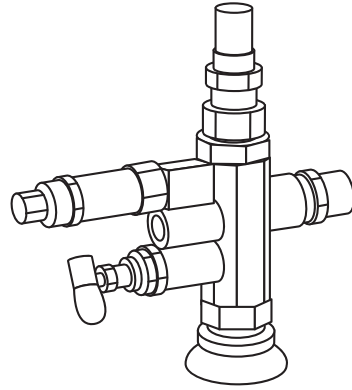

Figure 7 - Manual Lever Loaded Position
9. After approximately 30 minutes, move the unloader lever down to the loaded position and turn the regulator knob clockwise (See Figures 7 and 8). The compressor will begin to pump air into the tank.